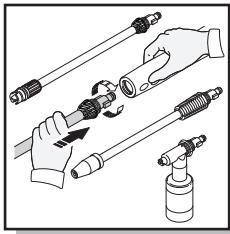

Fig. 6
- While the spray gun is in the locked position, insert the turbo lance, the adjustable spray lance, or the detergent bottle directly into the end of the spray gun by inserting and pushing together and turning clockwise simultaneously (Fig. 6). To remove push together and turn counter clockwise Push the safety lock button to lock the trigger on the spray gun when changing lances or detergent tank, to ensure that they do not accidentally eject with force during removal.